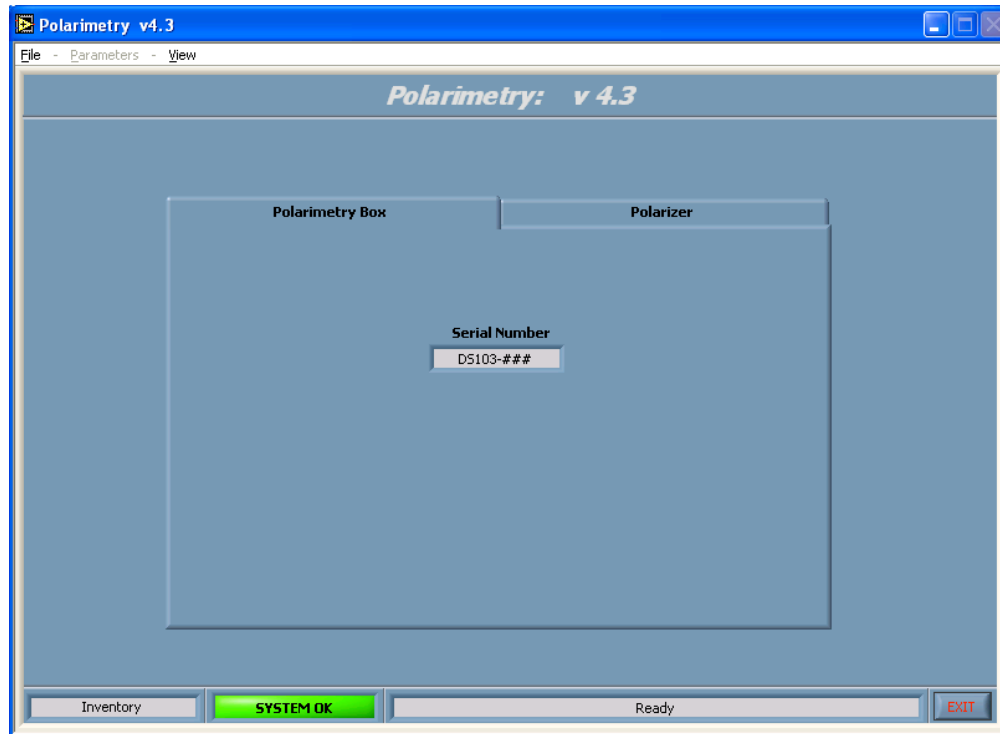

Figure 13: Polarimetry application-Inventory view
- The Inventory view — displays serial numbers of the polarimetry hardware (see Figure 13).